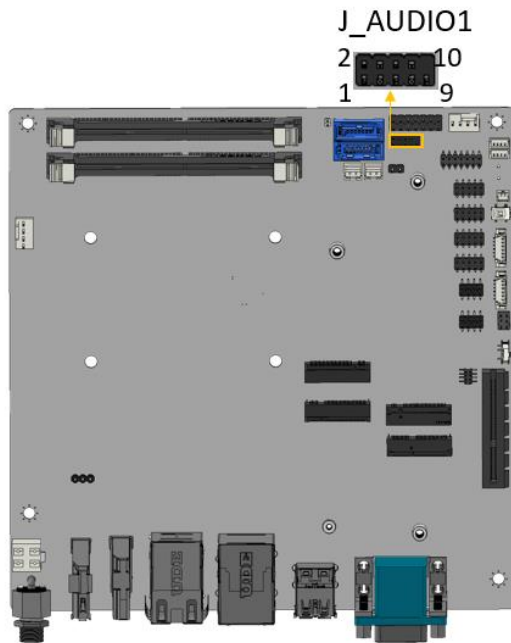

Figure 3-6: Audio Connector Location
- CN Location:** See **Figure 3-6**